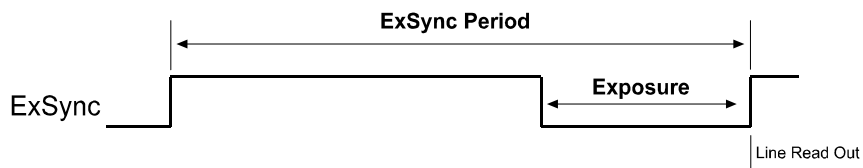

Figure 3-4: ExSync, Level-controlled Mode
- In **ExSync level-controlled** mode, the exposure time is determined by the time between the falling edge of ExSync and the next rising edge. The pixels are exposed and charge is accumulated only when ExSync is low. The lines are read out and transferred on the rising edge of the ExSync signal (see Figure 3-4).